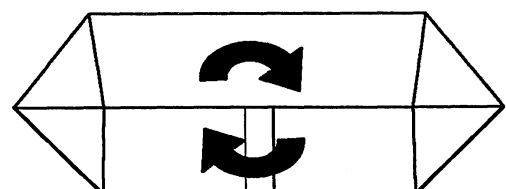

Fig. 4
- Turn the knob (1), on the SA. The pointer (2) indicates how much the packaging material web is adjusted.
- Turning the knob clockwise moves the tube as illustrated in fig. 4.
- Turn the knob (3) on the superstructure.